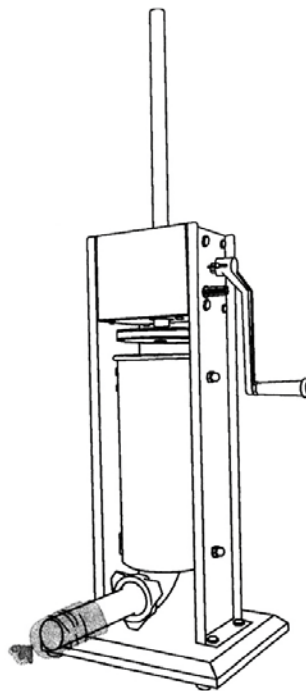

Fig. 8
6. Slip a casing on the end of the stuffing funnel until the entire casing has slid onto the funnel (Fig. 8).